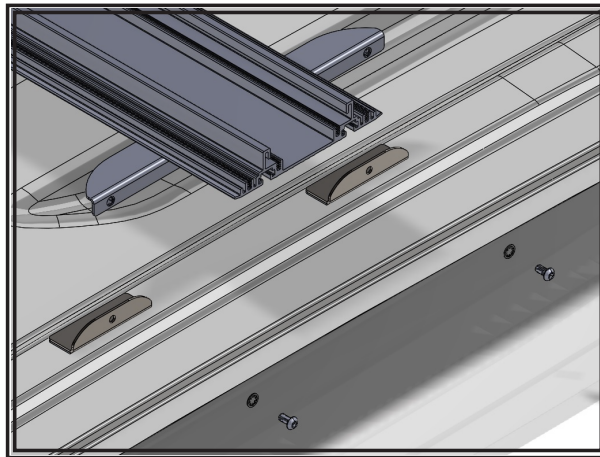

Figure 2
4. Remove the four 1/4"-20 button head screws and star washers from the mounting bracket and set aside. Remove the lightbar (with the brackets still attached) from the vehicle roof and set aside. See Figure 2.